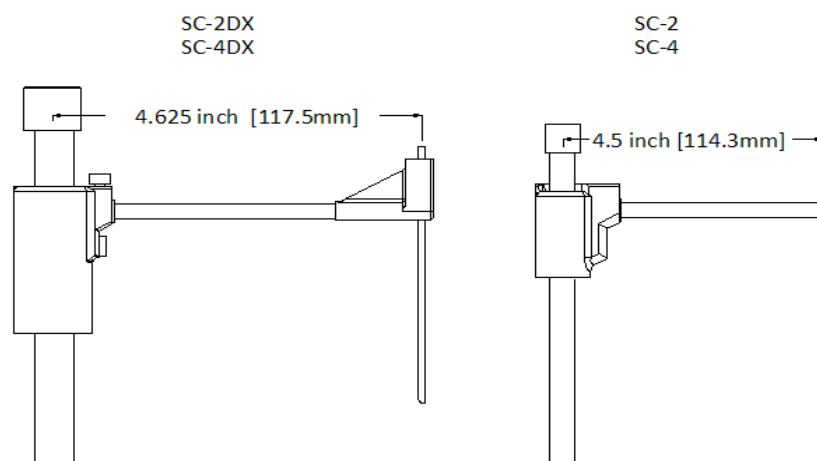

Figure 56: Probe arm measurements.
- 6) Verify that the probe is properly positioned in the arm as shown in Figure 56.